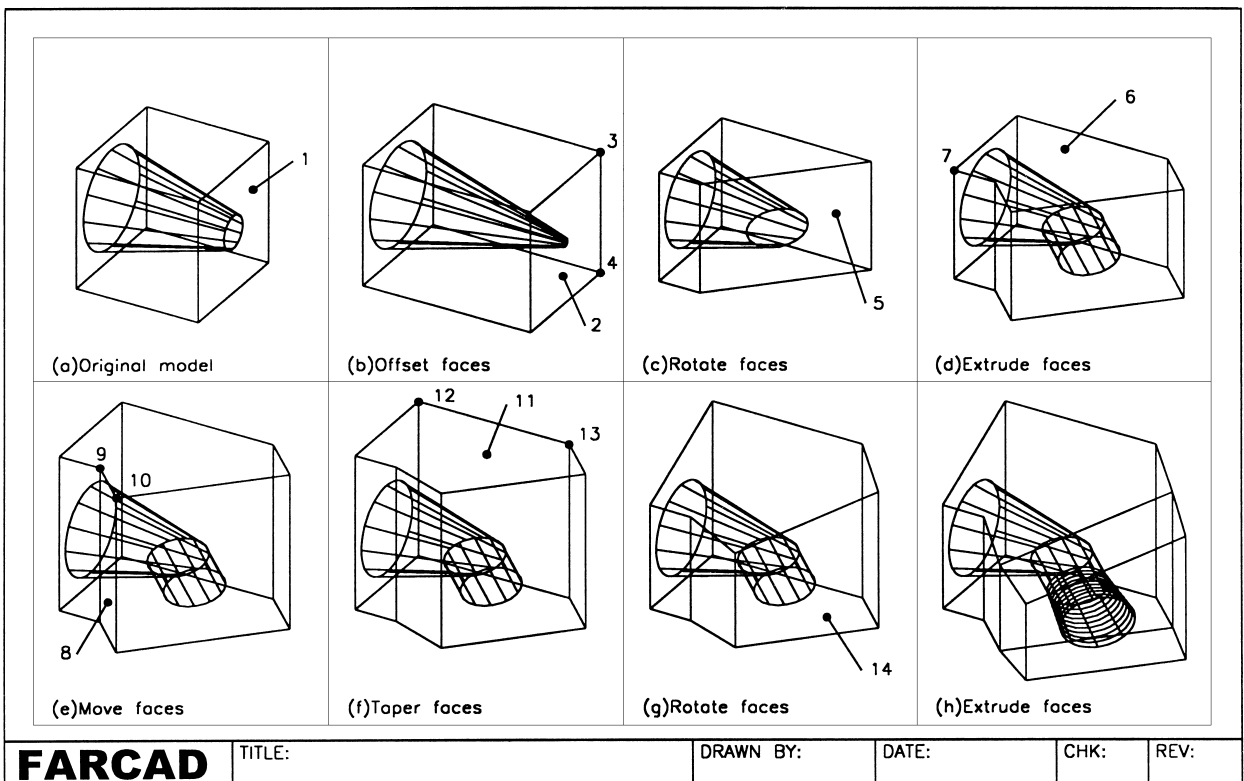

Figure 35.2 Solids editing example 2 – 3D viewport without hide.
- 1 Open your SOLA3 template file and refer to Fig. 35.2. Display the Solids, Solids Editing and Object Snap toolbars.